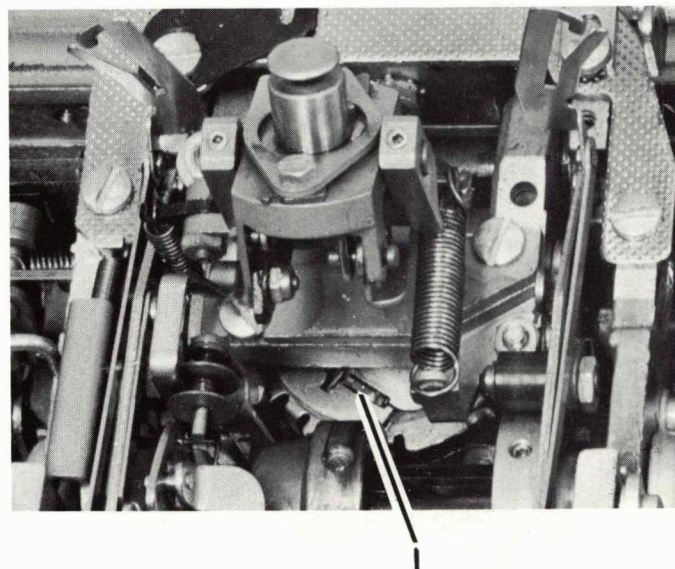

FIGURE 18. Rotate Tape Replacement
7. Pull the tape through and insert the T-tip of the tape into the T-slot of the pulley (#1, Figure 18).